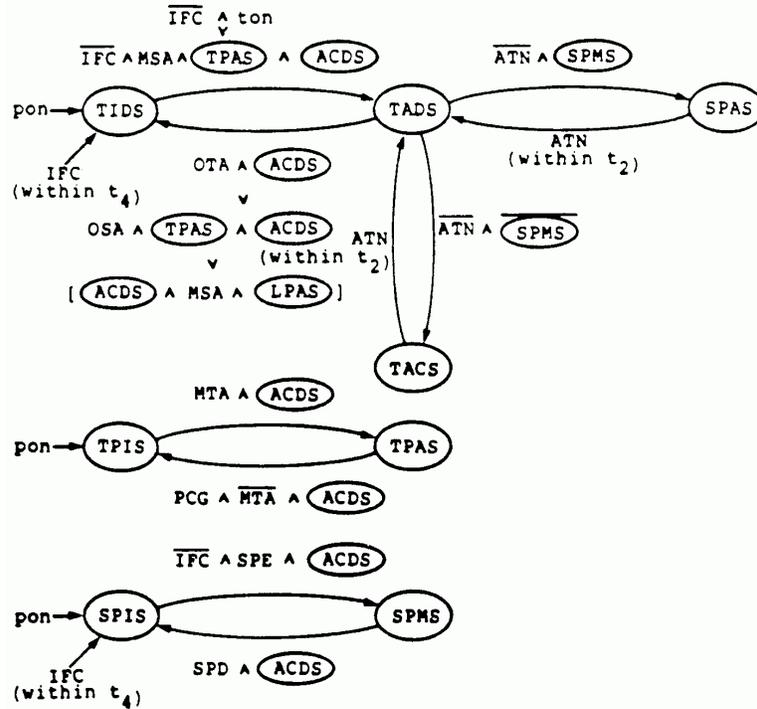

Figure 4-6. Talker extended diagram
The Talker Extended function defines two more states — Talker Primary Idle state (TPIS) and Talker Primary Addressed state (TPAS). The Talker Extended (TE) state diagram is shown in Figure 4-6.
When configured in this mode, the TLC operates according to the talker extended (TE) state diagram (refer to Figure 4-6).
When the TLC as Controller-in-Charge receives a service request, it uses the Serial Poll function to poll each device (talker) to determine which device is requesting service. The Serial Poll state diagram is included in the Talker state diagram (Figure 4-5) and the Talker Extended state diagram (Figure 4-6).